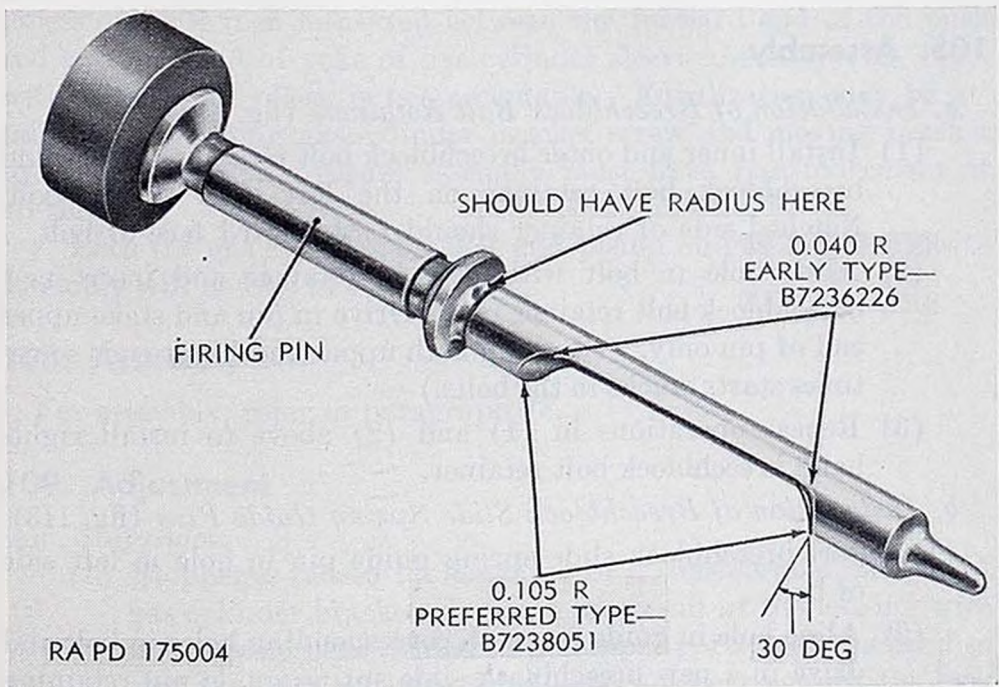

Figure 114. Firing pins.
- d. Check for free movement of firing pin in guide and of guide in bolt. Be sure that insulation is in visibly good condition. Examine firing pin for deformation and replace if bent or broken. Segregate firing pins 7238051 in accordance with instructions in figure 114. Examine guide outer sleeve and inner bushing for cracks or breaks. Replace the guide if cracked or broken.